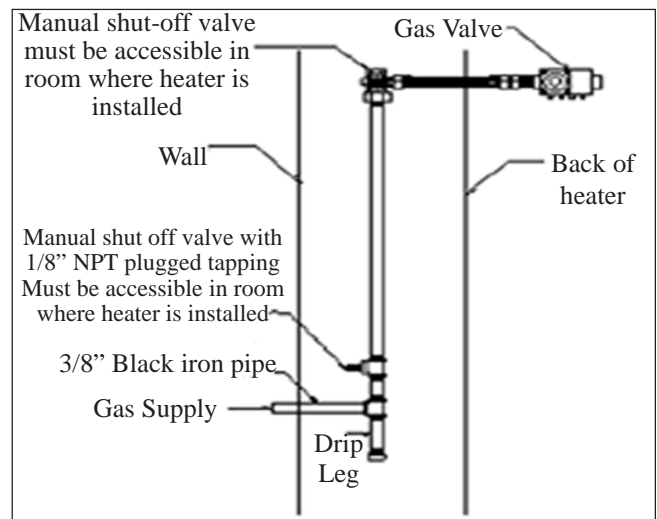

FIGURE 5
STEP 2. ROUGH-IN GAS SUPPLY (See Figure 5)
Install a drip leg in gas supply line immediately upstream from the gas connection to heater (see local codes), and provide a 1/8" N.P.T. plugged tapping, accessible for test gauge connection and an individual manual shut off valve accessible within room where heater is installed. (See Figure 5). The heater and its individual shut off valve must be disconnected from the gas supply piping system during any pressure testing of that system at test pressures in excess of 1/2 psig (3.5Pa). The heater must be isolated from the gas supply piping system by closing its individual manual shut off valve during any pressure testing of the gas supply piping system at test pressures equal to or less than 1/2 psig (3.5Pa). Test all connections for leaks using a soapy solution. **NEVER USE AN OPEN FLAME TO TEST FOR LEAKS.**